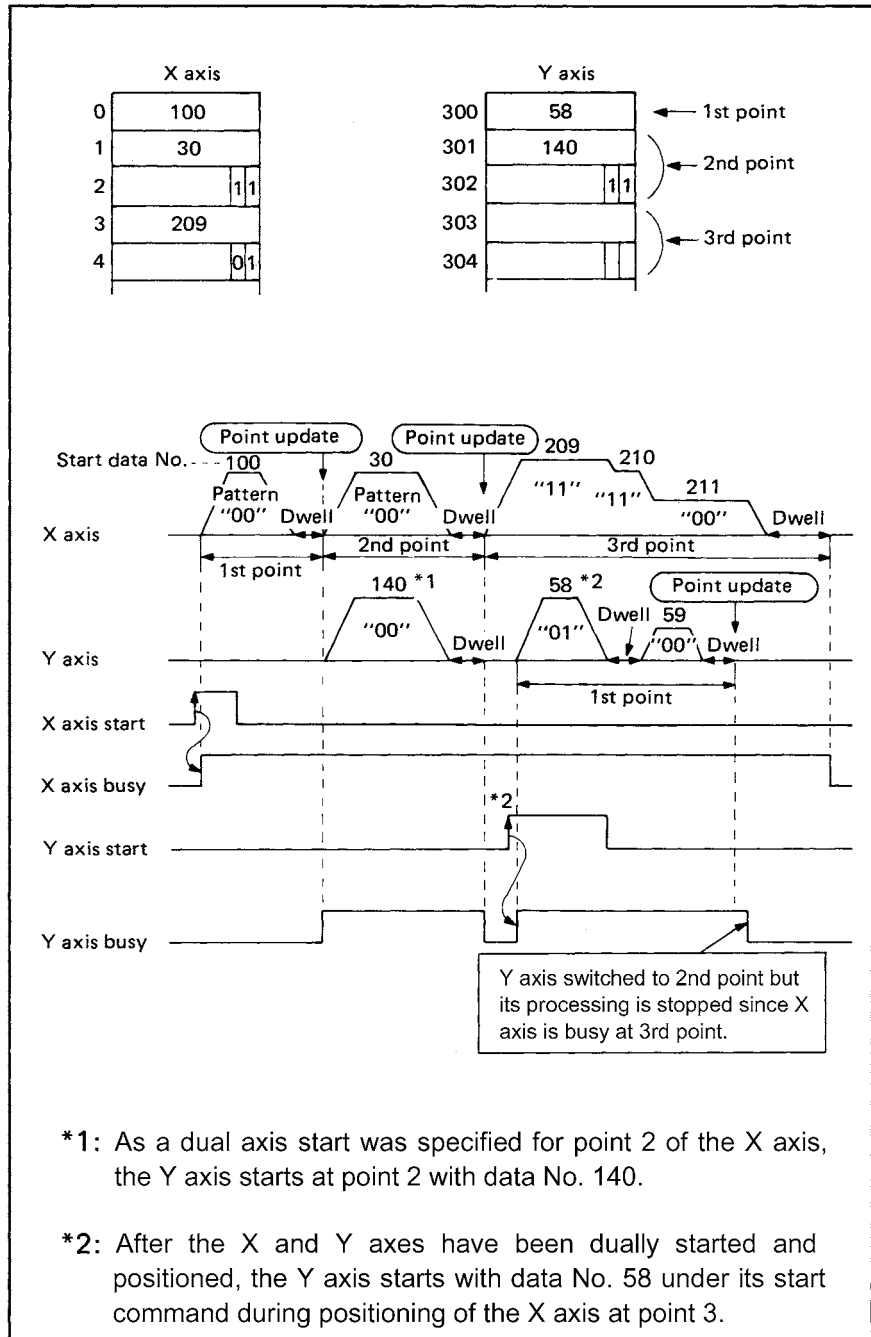

Fig. 3.31 Start Data Example 6
- Processing will stop if one axis proceeds ahead of the other and dual axis processing is called. See Fig. 3.31.